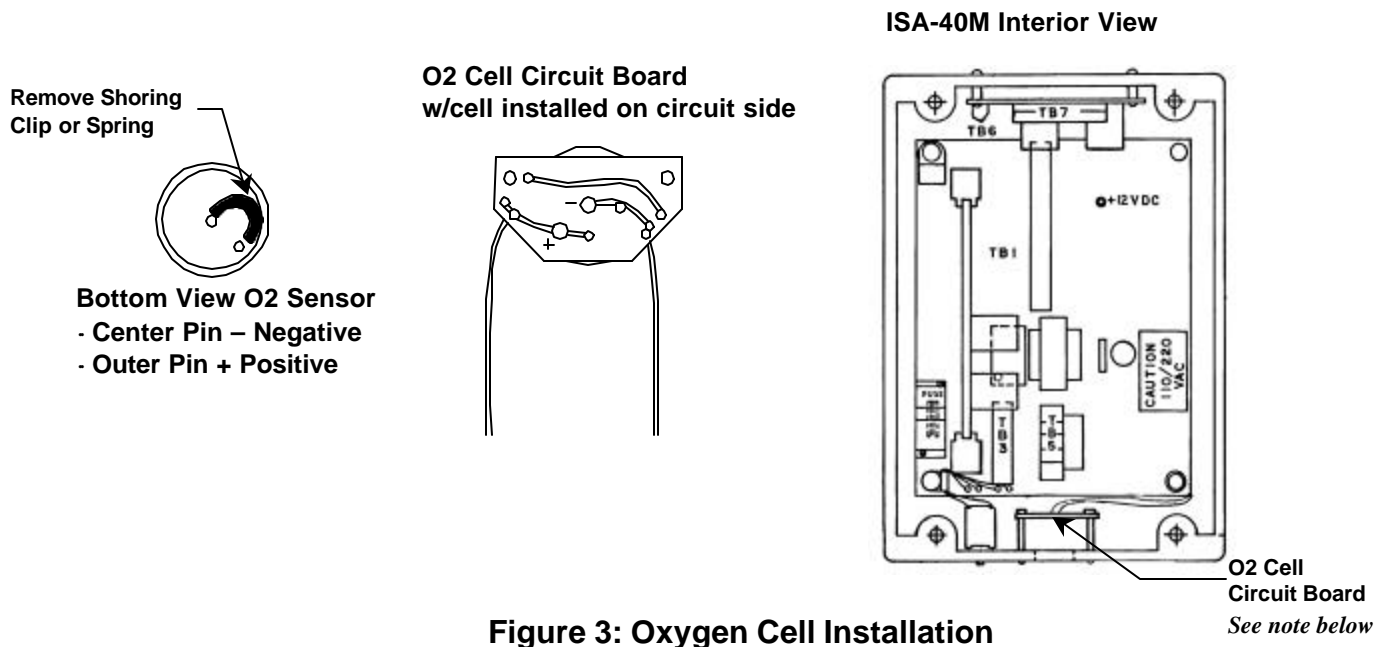

Figure 3: Oxygen Cell Installation
| FIGURE 3: OXYGEN CELL INSTALLATION | 5 |
3. Remove the metal shorting clip (or spring) from cell pins. See Figure 3.
4. Plug the cell into the component side of the cell circuit board; center pin to center hole. See Figure 3. Place the board in the enclosure and replace the screws to secure the cell and circuit board.